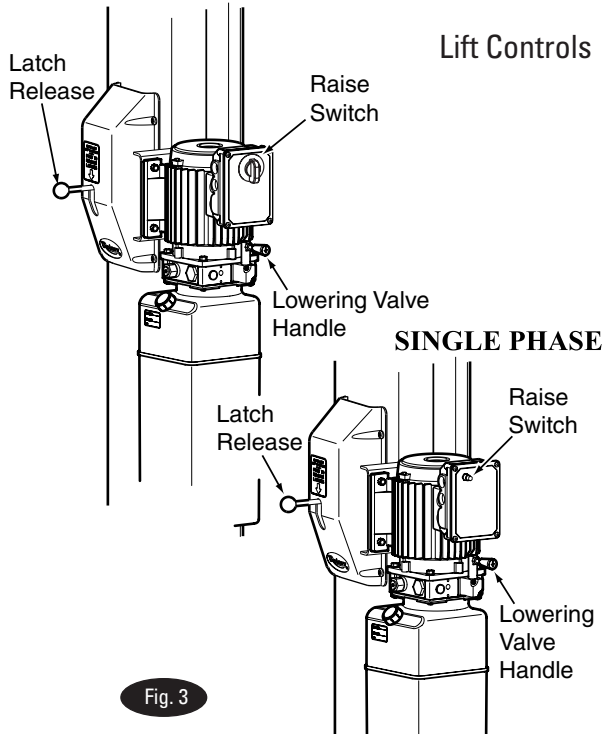

Fig. 3
- A. Push RAISE switch on power unit, Fig. 3.
D. Pull LOWERING valve handle to lower, Fig. 3.